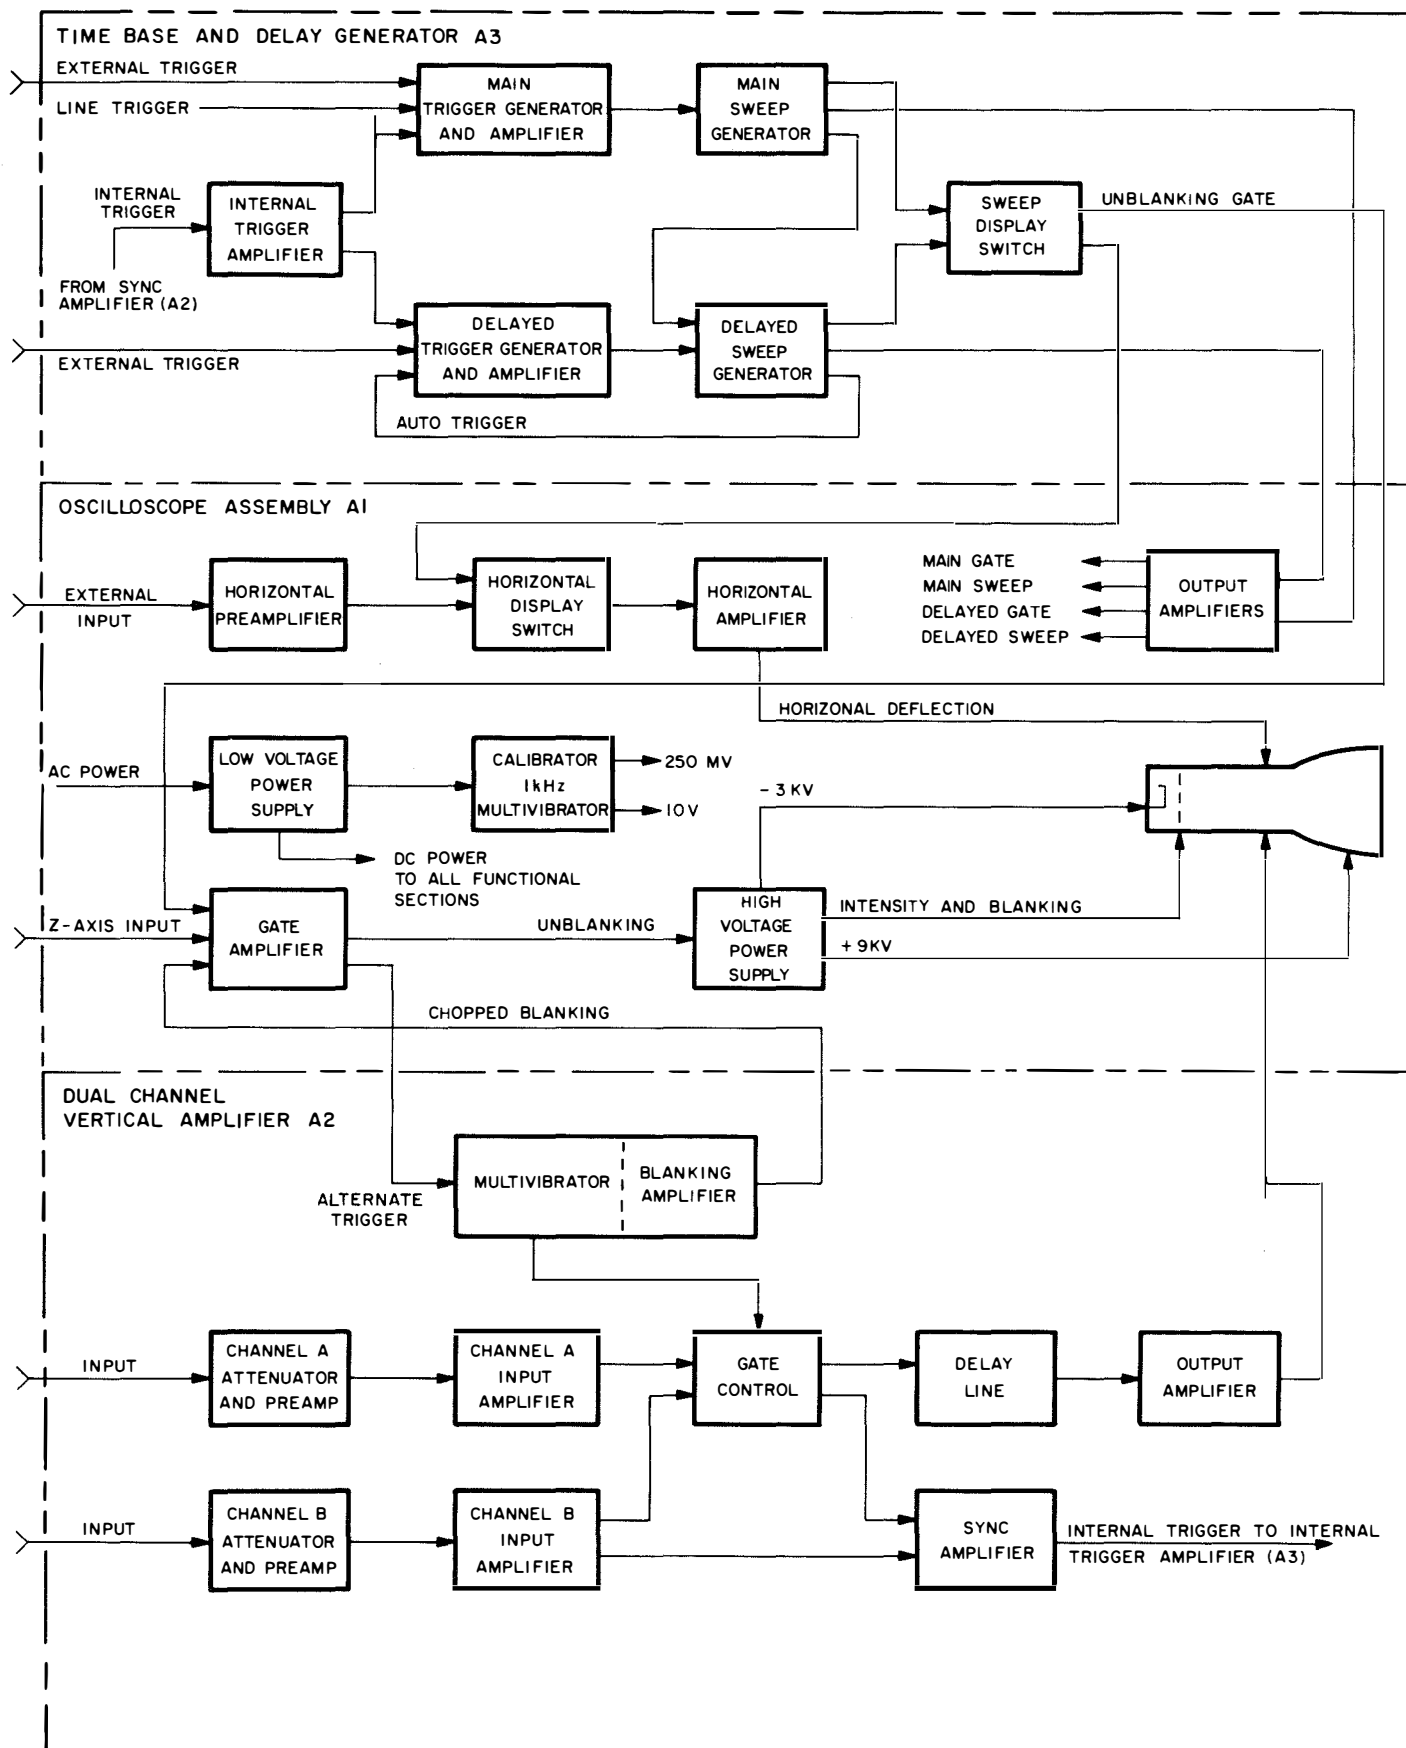
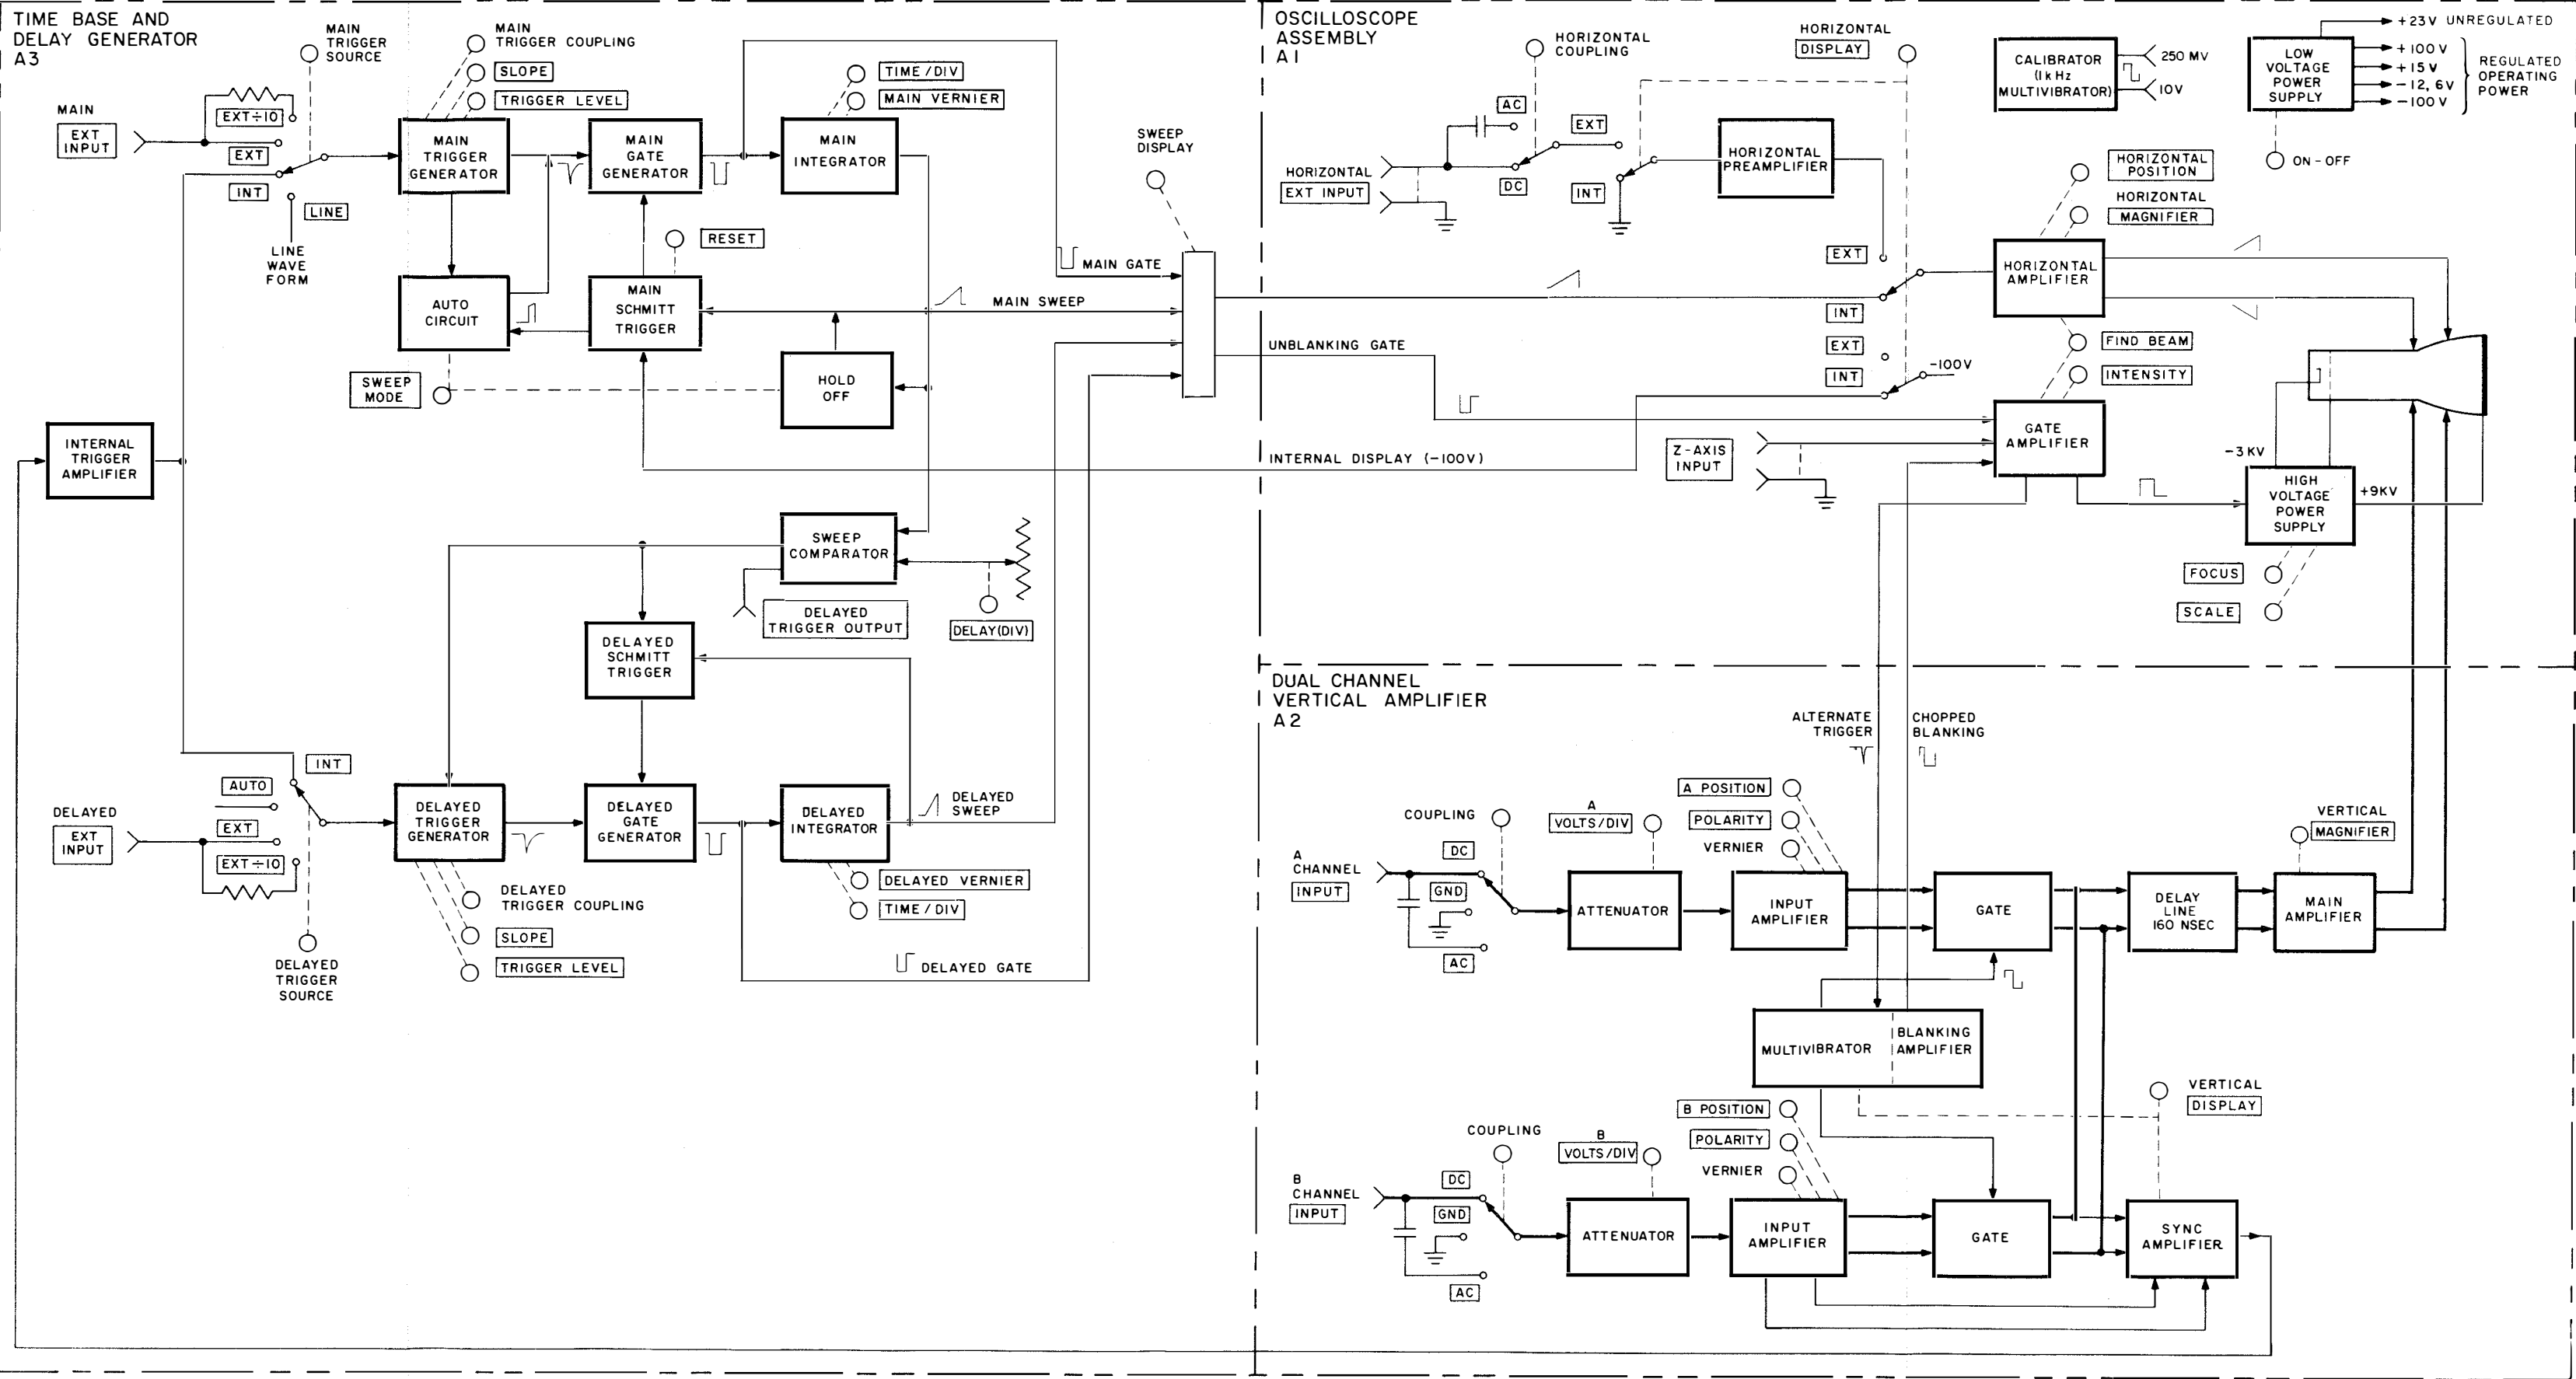

Figure 4-1. Oscilloscope Overall Functional Block Diagram
Figure 4-2. Oscilloscope Overall Functional and Servicing Block Diagram
c. **LISTING PROBABLE FAULTY FUNCTION.** - The next step in the logical trouble shooting is to formulate a number of mental choices as to the cause and functional section of the malfunction. This decision must be based on a complete understanding of instrument operation, and a full identification of the trouble symptom. With this in mind, consult the overall functional description and the associated block diagram (figure 4-1) and select the possible faulty functional sections.
d. **LOCALIZING THE FAULTY FUNCTION.** - After selecting the possible faulty functional sections the trouble must be systematically isolated to one functional section. This is accomplished by testing each section in the most efficient order. Use the overall trouble shooting section (table 4-2) and servicing block diagram (figure 4-2) as an aid in isolating the problem to a single functional section.
The oscilloscope requires three signals to produce a usable display on the CRT. These are intensity, horizontal deflection, and vertical deflection. Refer to figure 4-1 for the functional block diagram of the oscilloscope. The circuitry for producing intensity is included in the oscilloscope assembly and consists of the low and high voltage supplies and the gate amplifier. The circuitry for producing internal horizontal deflection consists of the horizontal amplifier contained in the oscilloscope assembly; and the internal trigger amplifier, main and delayed trigger generators, and main and delayed sweep generators located in the time base and delay generator. The oscilloscope assembly also contains a horizontal pre-amplifier for accepting external horizontal deflection signals. The circuitry for producing vertical deflection is located in the dual channel vertical amplifier and consists of a channel A and B attenuator and pre-amplifier, a channel A and B input amplifier and gate control, a main amplifier, a multivibrator, and a sync amplifier. To aid in trouble shooting, these main circuits have been divided into functional sections. These functional sections are listed and briefly described in the following paragraphs.
j. **MAIN TRIGGER GENERATOR AND AMPLIFIER.** - The main trigger generator (depending on the setting of the main trigger source switch) receives a trigger signal from an internal, external, or line source. If the internal source is selected, the trigger signal from the sync amplifier is amplified by the internal trigger amplifier (in the time base and delay generator) before it is applied to the trigger generator. The main trigger generator and amplifier amplifies the selected trigger signal, compares it to a present trigger level (determined by the main TRIGGER LEVEL control) and provides a sharp negative trigger pulse to the main gate generator (figure 4-2). If the main trigger generator receives no input trigger signal while operating in the NORM or SINGLE mode, it produces no trigger output. In the AUTO mode the trigger generator produces a trigger output in the absence of an incoming trigger signal.
k. **MAIN SWEEP GENERATOR.** - The main sweep generator functional section (figure 4-1) consists of the main gate generator, the main integrator, a hold-off circuit and the main Schmitt Trigger. See figure 4-2. When the main gate generator is triggered by the main trigger generator it produces a negative rectangular gate pulse. The gate pulse is applied through the sweep display switch to the gate amplifier in the oscilloscope assembly to unblank the CRT. At the same time the gate signal enables the main integrator and the integrator begins generating a positive-going sawtooth (sweep) voltage at a rate determined by the setting of the main TIME/DIV switch. This sweep signal is applied through the sweep display switch (in the MAIN and MIXED modes) to the horizontal amplifier in the oscilloscope assembly to drive the horizontal deflection plates. The main sweep signal is also applied to the main Schmitt Trigger and the hold-off circuit. When the sweep output reaches a preset level (determined by sweep length adjustment) the Schmitt Trigger switches and cuts off the gate generator to terminate the sweep signal. The sweep is removed from the hold-off circuit and, after a delay, the hold-off circuit applies a negative signal to the Schmitt Trigger causing it to switch and reset the main gate generator to the ready condition. When the main gate generator is in the ready condition the next trigger pulse causes the gate to repeat the sweep cycle. In the SINGLE mode of operation the hold-off output is disabled and the Schmitt Trigger and gate can only be reset by pressing the RESET pushbutton.
source, If the internal or external source is selected, the delayed trigger generator and amplifier amplifies the incoming trigger signal, compares it to a preset trigger level (determined by setting of delayed TRIGGER LEVEL control) and provides a sharp negative trigger pulse to the delayed gate generator (figure 4-2). If the auto trigger source is selected, the delayed trigger generator is disabled and the sweep comparator (in the delayed sweep generator) provides a positive trigger pulse to the delayed trigger output amplifier. The delayed trigger output amplifier amplifies and inverts the pulse to provide a negative trigger signal to the delayed gate generator.
m. **DELAYED SWEEP GENERATOR.** - The de-sweep generator functional section (figure 4-1) consists of the delayed gate generator, the delayed integrator, a sweep comparator, and the delayed Schmitt Trigger. See figure 4-2. The delayed gate generator and delayed integrator function the same as the main gate generator and main integrator (paragraph k above). The delayed sweep output is applied through the sweep display switch to the horizontal amplifier only in the MIXED and DELAYED sweep modes. In the MIXED mode both the main and delayed sweeps are applied to the horizontal amplifier. In the DELAYED mode, only the delayed sweep is displayed. The sweep comparator receives the main sweep signal from the main time generator and compares it to a voltage level set by the DELAY(DIV) control. When the main sweep voltage exceeds the set level, the comparator provides a positive output pulse to reset the delayed Schmitt Trigger and enable the delayed gate generator. If the auto source is selected, the comparator output is also applied to the trigger generator as previously described. When the delayed gate is enabled the first trigger pulse (immediately in auto) starts the sweep cycle. The delayed sweep cycle is terminated when the sweep reaches a predetermined voltage level and switches the delayed Schmitt Trigger to disable the gate.
c. **OVERALL SERVICING BLOCK DIAGRAM.** - The overall servicing block diagram for the oscilloscope is shown in figure 4-2. This diagram shows the overall relationship between the functional units and the typical waveforms to be expected. Since most waveforms in the dual channel vertical amplifier are dependent on the applied input signal, these waveforms have been omitted from the servicing diagram.